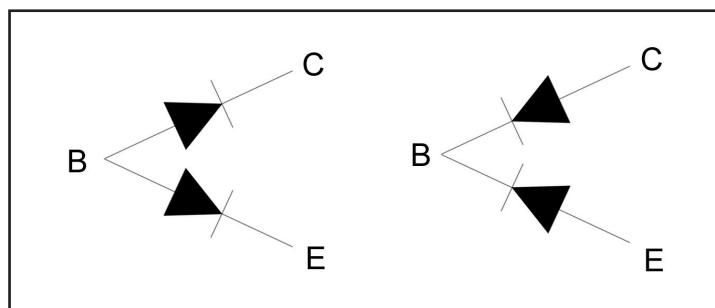

Figure E.19 Diode Representation of a Transistor, NPN (Left) and PNP (Right)
2. The base-emitter and base-collector circuits look like two diodes back-to-back (Figure E.19). Normally the base-emitter diode is conducting (with a forward voltage drop, V_{BE} , of approximately 0.7V) and the base-collector diode is reversebiased.